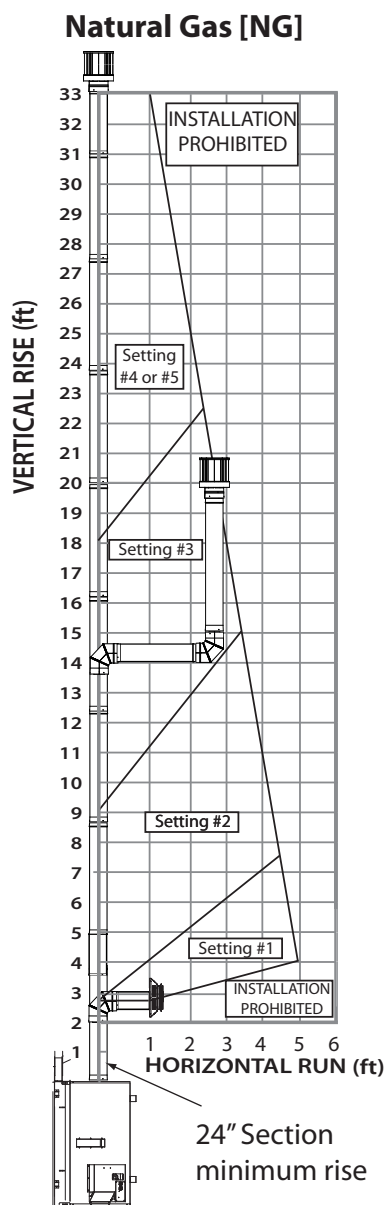
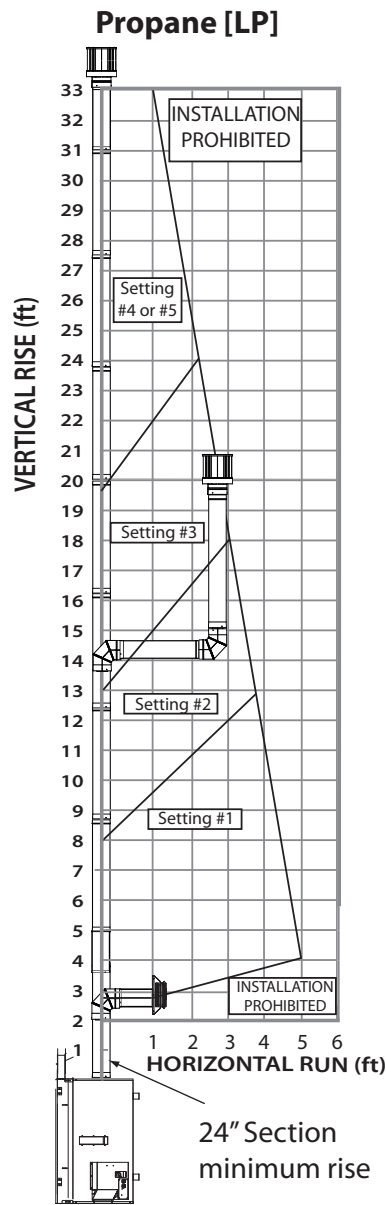

Figure 61: 8" x 11" NG Vent Graph
Figure 62: 8" x 11" LP Vent Graph
***Note:** Be sure to use the proper diagram depending on if your unit uses Natural Gas (Figure 61) or Propane (Figure 62).